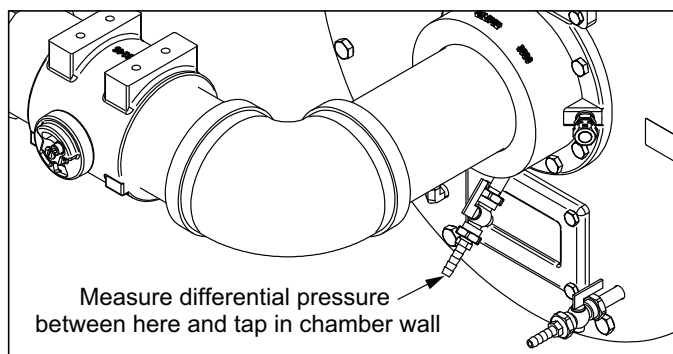

Figure 4.19. High Fire Differential Gas Pressure
3. Measure the gas differential pressure as shown in Figure 4.19.